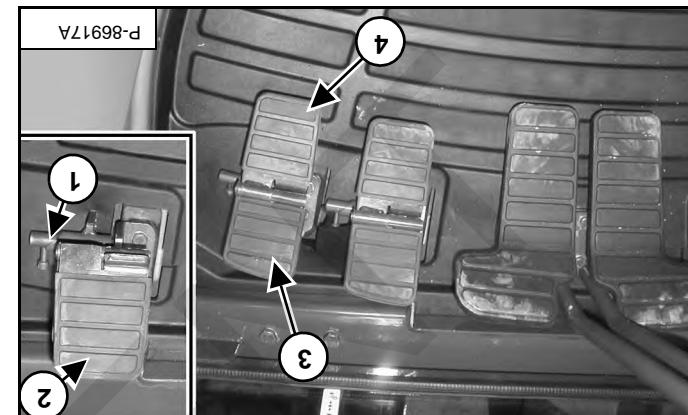

Figure 118
Push the toe of the pedal (item 1) and pivot the heel of the pedal to the rear (item 2) [Figure 118]. Release the pedal lock (item 1) and pivot the heel of the pedal to the rear (item 2) [Figure 118].
[Item 4) [Figure 118] to rotate the heel of the pedal in the clockwise direction; push the heel of the pedal to the rear (item 2) [Figure 118] to start auger rotation